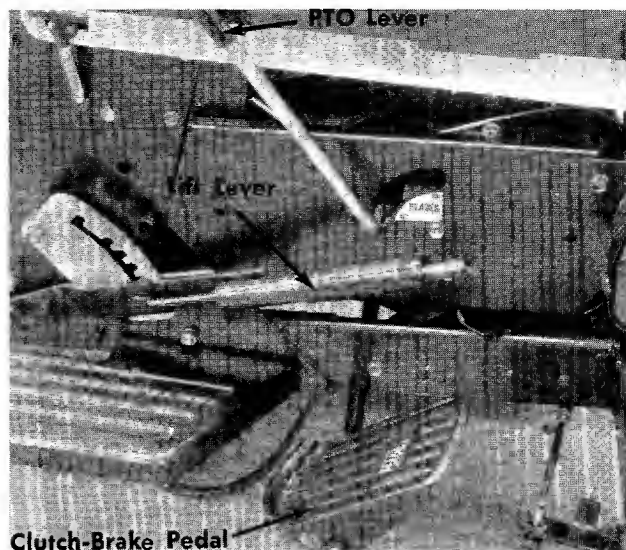

FIGURE 17. CONTROLS
g. **Lift Lever.** Depress the thumb button and pull back on the lift lever to raise the attachments. See figure 17.
- Step 3. Place the PTO lever in the OFF position as shown in figure 17.
Step 8. Lower the cutting deck with the lift lever. See figure 17.
Step 9. Slowly engage the PTO lever. See figure 17.
Move the PTO lever towards you to stop the blades from turning. See figure 17.